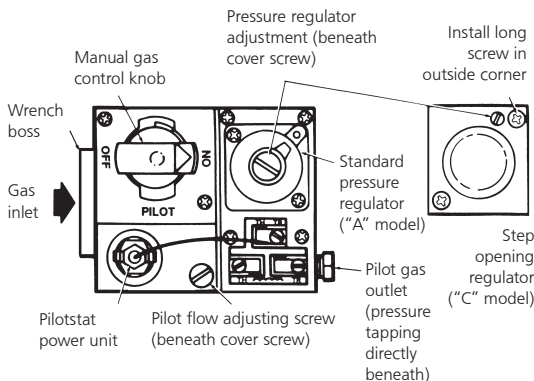

Figure 8.
- a. Remove pilot adjustment cover screw. Refer to Figure 8.